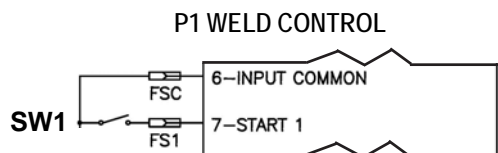

Figure 9-19. Control input connection
1. Connect initiation switch SW1 to connector P1 as shown in Figure 9-19.
1. Connect initiation switch SW1 to connector P1 as shown in Figure 9-19 (see Section 9.5.1).